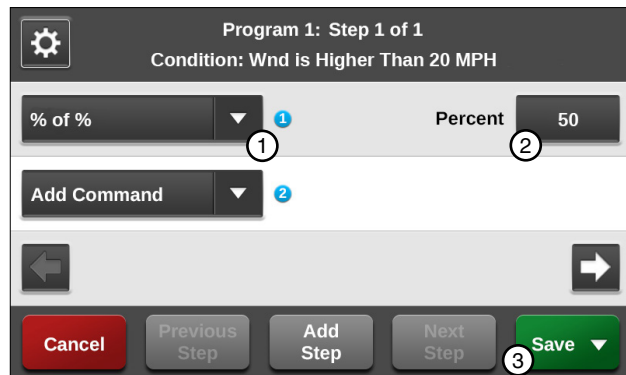

Figure 119-3 1. % of % Command 2. Percent 3. Save
4. Enter the command to be executed when wind speed is higher than 20 mph. Refer to Figure 119-3.